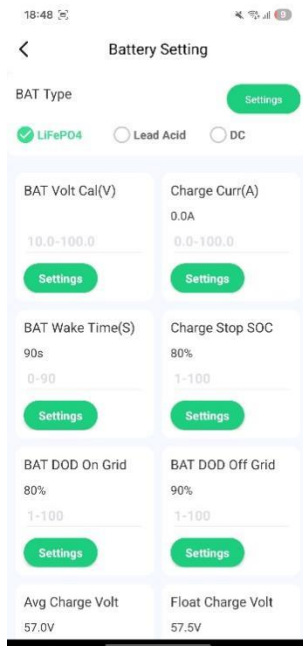

Fig. 4.20.21 Lithium Battery
(1) In the battery settings, you can choose one of the following battery types: "Lithium", "Lead Acid", or "DC". As shown in Fig. 4.20.21.
(1) If you select "Lithium Battery", you can configure settings such as battery voltage, current, wake-up time, capacity, grid-connected discharge depth, off-grid discharge depth, and more, as shown in Fig. 4.20.21.